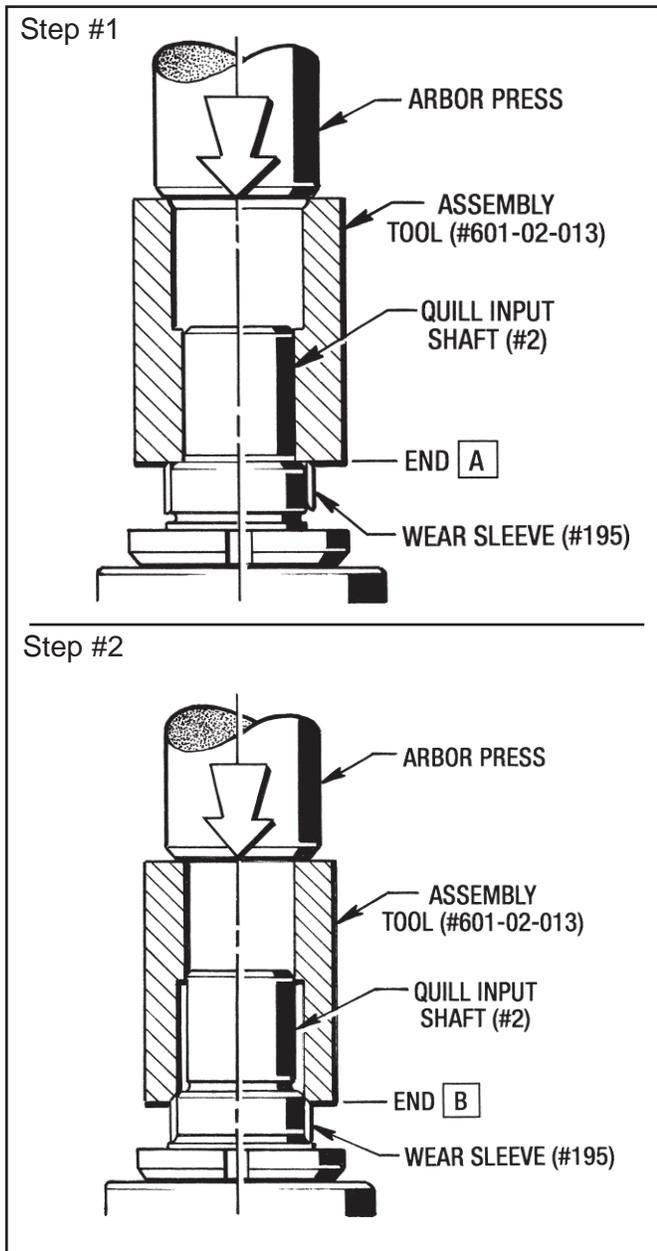

Figure 9.13 - Installing Wear Sleeve (#195) on Quill Input Shaft
Place the Wear Sleeve (#195) then the Assembly Tool #601-02-013 with End "A" pointed down over the Quill Input Shaft (#2) as shown in Figure 9.13.
Step 2 - Turn the Assembly Tool #601-02-013 over and with End "B" finish pressing the Wear Sleeve (#195) until it is completely seated on the Input shaft as shown in Figure 9.13. Clean off any excess Loctite.